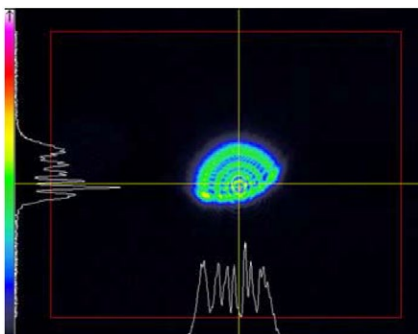

Figure 5. Diffraction pattern of $\varnothing 3$ mm.
c. Install the output aperture of $\varnothing 3$ mm and check diffraction pattern on the camera (fig. 5).